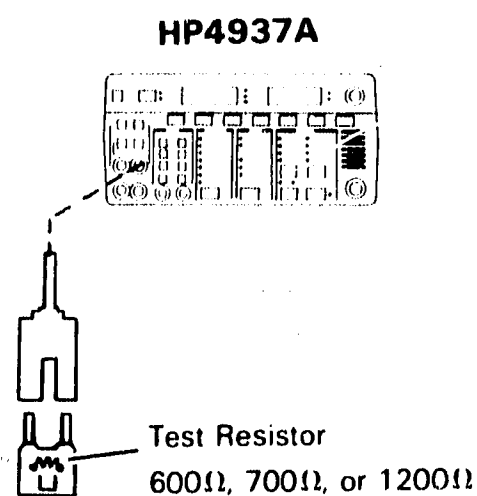

Figure 4-9. Termination Impedance Test
3. Connect equipment as shown in figure 4-9.